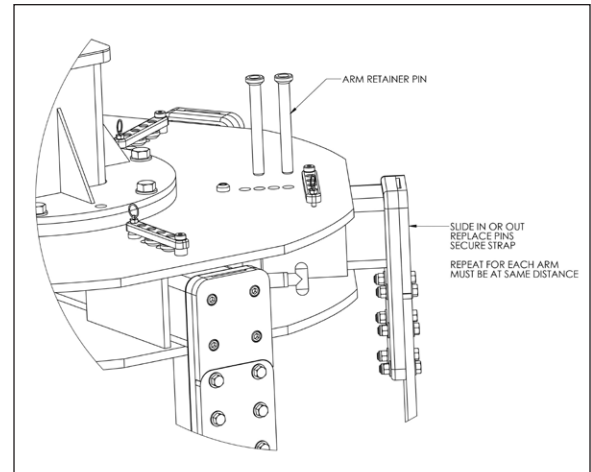

Figure 15. Set Cutting Diameter.
18. Remove the Arm Retainer Pins [P-MM0113] to adjust the arm position, replace the retaining pins at the desired cutting diameter setting and lock into place. (See Set Cutting Diameter.) See Figure 15.